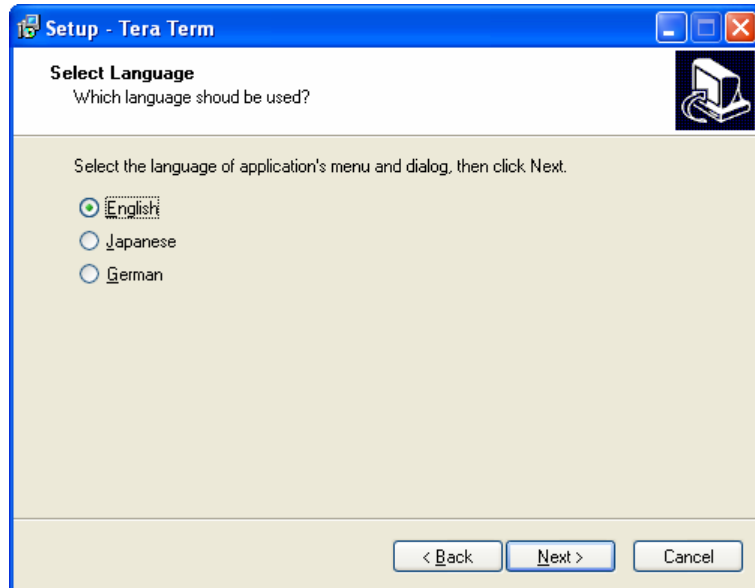

Figure 6-17: Select Language Screen
11. Select a language, then click **N**ext (Figure 6-17).